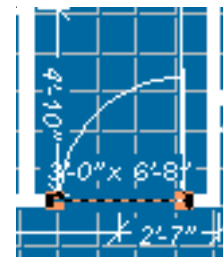

Figure 21
- Drag** the selected door to where you want it and click to drop it into place. You will need to **click** again to determine the direction and *swing of the door* (which way the door opens left or right). This is shown in **figure 21**.